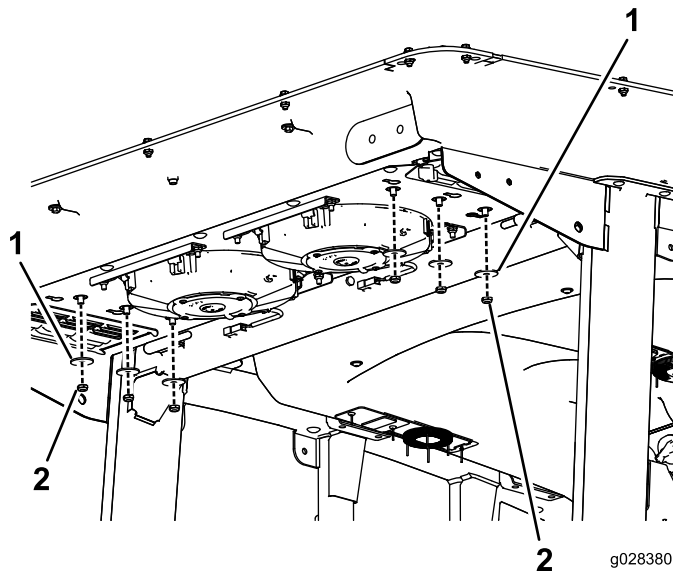

Figure 55
2. Remove the 6 nuts and washers from the bottom of the rear of the cab (Figure 55).